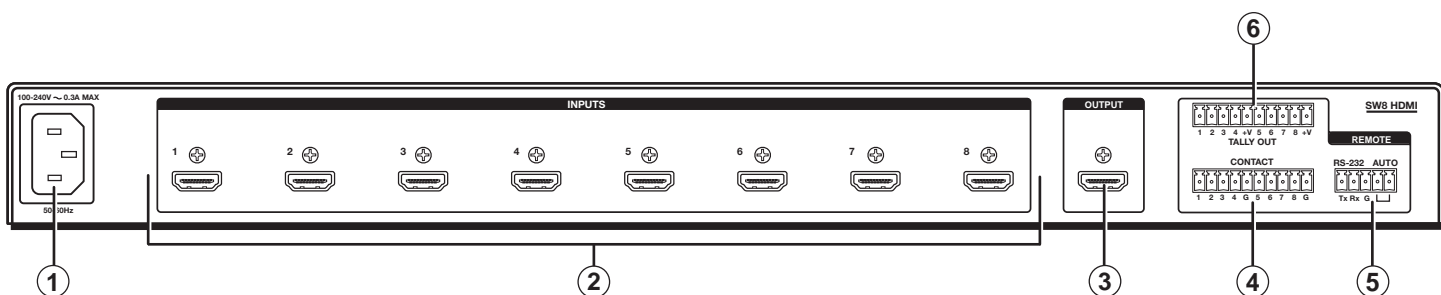

Figure 1. SW8 HDMI Rear Panel
NOTE: Figure 1 shows an SW8 HDMI, which has eight input connectors. The rear panel of the SW6 HDMI is identical except for the number of input connectors (six).
3. **Connect HDMI input sources** to one or more of the SW HDMI input connectors (② on the rear panel diagram in figure 1).
4. **Connect an HDMI output device** to the output connector (③). By default, the EDID of this device is stored at the HDMI inputs.
- **RS-232 port** — Connect the unterminated transmit, receive, and ground wires of the RS-232 cable to the first three pins on the provided 5-pole captive screw plug, as shown in the illustration at right. Connect the plug to the rear panel Remote shared connector (⑤ in figure 1), and the other end of the cable to your computer serial port. Protocol for the RS-232 port is 9600 baud, 8 data bits, 1 stop bit, no parity.
- **Config port** — USB mini-B connector (⑥ on the front panel diagram on page 3) for USB control.